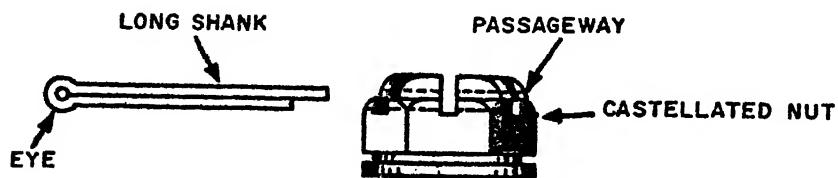

FIGURE 6
b. Insert cotter pin through castellated nut slot and drilled bolt passageway (the long shank should be on top). See figure 6.